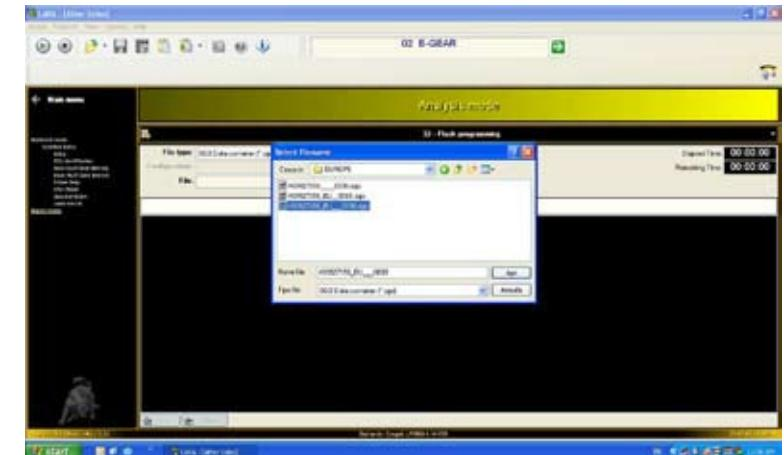

Fig.121
7. Select the software (Europe or USA) on which you wish to refresh the vehicle (**Fig.121**).